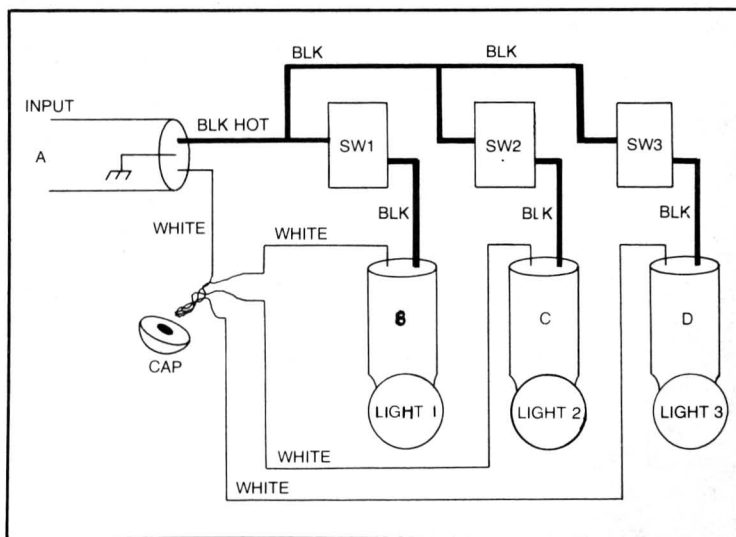

Fig. 6-41. A wiring diagram for three switches and three lights. A, B, C and D are Romex cables.
There are three switches needed here. A common "hot" line comes in and then the switches, one side of them, will be connected to this hot line. Then the other side of the switches will be connected to the black "run." In Fig. 6-41 the input hot cable is at (A) and it has three wires: one black, one white and one bare wire.
When switches are designated, all you have to do is pick out the incoming "hot" cable and then make the connections to switches as was shown in Fig. 6-41, whether it be one or four switches. Some professionals put a little notch or imprint in the insulation of the wires. For example on *travelers* (connections *between* switches at ends of hallways), they put three little indents.